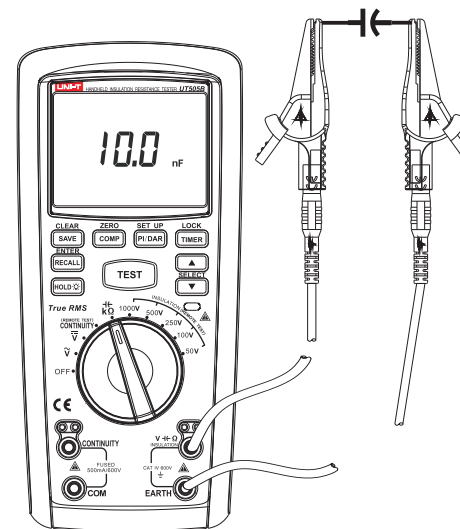

Figure 8
4.2 Measuring of Capacitance (See Figure 8)
- ① Insert the red probe into " $V\sim$ " jack (red jack), and black one into "EARTH" jack (black jack).
- ② Rotate dial switch to " $K\Omega/\text{---}$ " tap position and connect the probe to two ends of tested capacitance in parallel.
- ③ Press " ∇ /SELECT" to select capacitance tap position.
- ④ Read current measuring value of capacitance from the display.
- ⑤ In measuring, if intending to save measured capacitance, press the key of "SAVE/CLEAR" for saving.